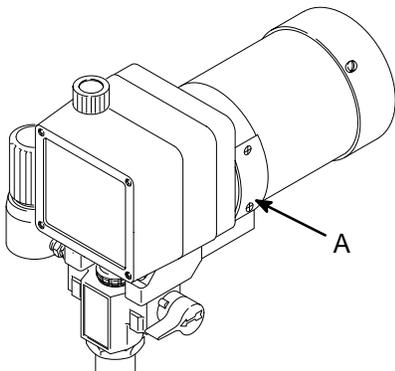

Fig. 15 02831A
1. Remove both inspection covers (A) and their gaskets. See Fig. 15.